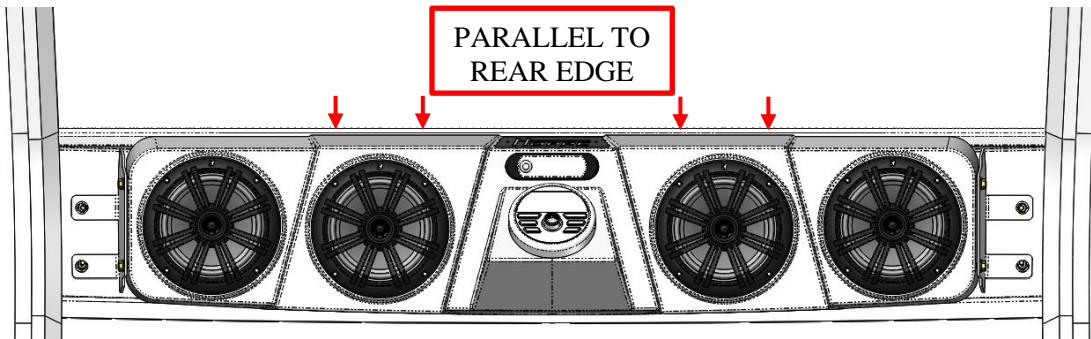

Figure 20: Audio Mini rear edge parallel to rear edge of visor.
16. Tighten the 4 visor-mounting bolts so that the rear edge of the *Audio Mini* is parallel to the rear edge of the visor. See Figure 20.